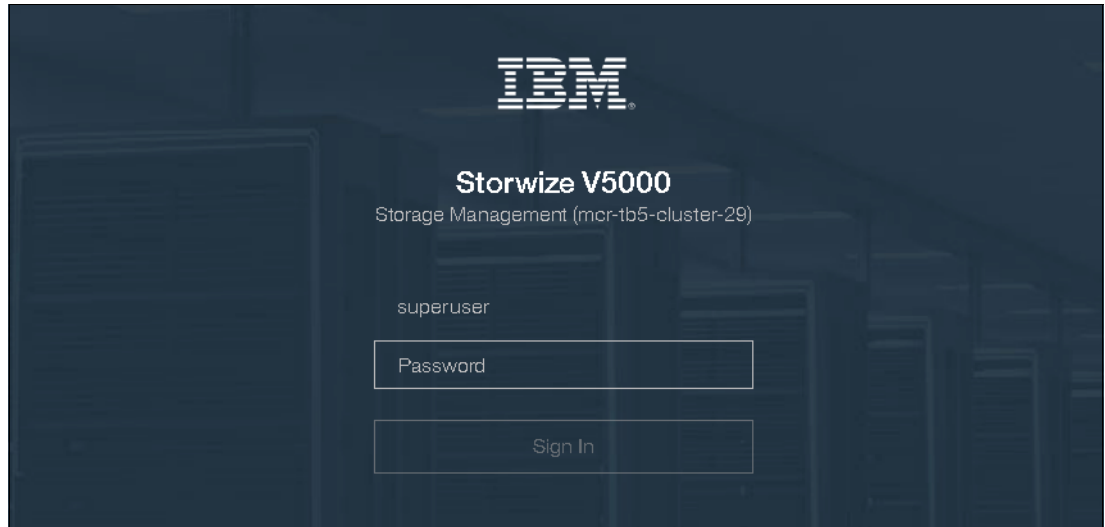

Figure 2-22 Setup wizard: Password prompt
2. Enter a new secure password twice for the superuser user as shown in Figure 2-22 and click **Log in**.